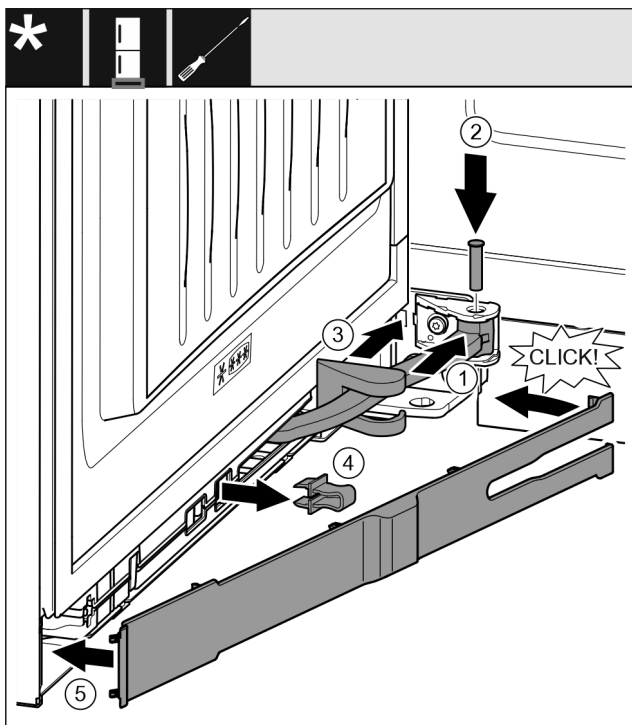

Fig. 67
- ▶ Turn the joint Fig. 67 (1) in the attachment.
- ▶ Use a screwdriver to insert the bolt Fig. 67 (2) into the attachment and the joint. Ensure that the latching cam is in the groove properly.
- ▶ Push the swap bearing block cover Fig. 67 (3) along the joint and use the attachment to fit it.
- ▶ Remove the safeguard Fig. 67 (4).
- ▶ Place the trim Fig. 67 (5) on the handle side and swing in.